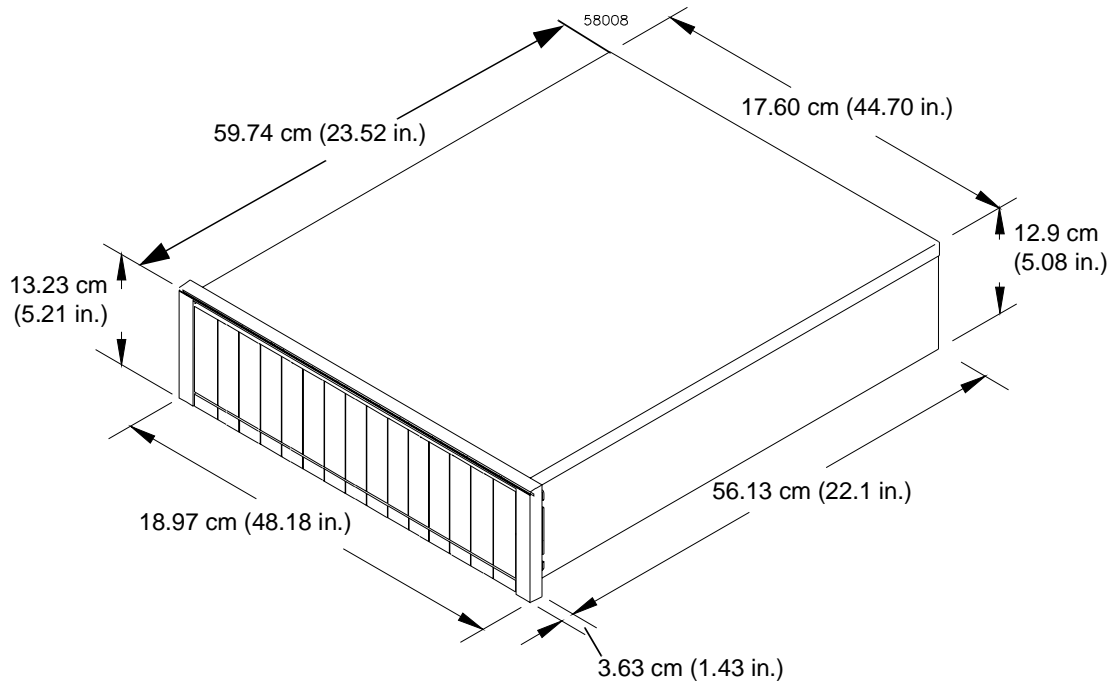

Figure 3 FC-1 14x Drive Module and E2400 14x Command Module Dimensions
- E2400 14x command module – see Figure 3 on page 15
- FC-1 14x drive module – see Figure 3 on page 15